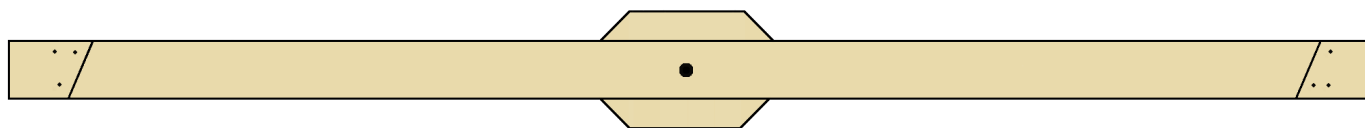

FIGURE 10
- ⇒ These two boards will be attached to the top board (the one with the feet already attached to it as shown in *figure 10*). These "wings" act as both stabilizers for the cross-piece, and provide enough width for the base of the "receiver" (see page 6).